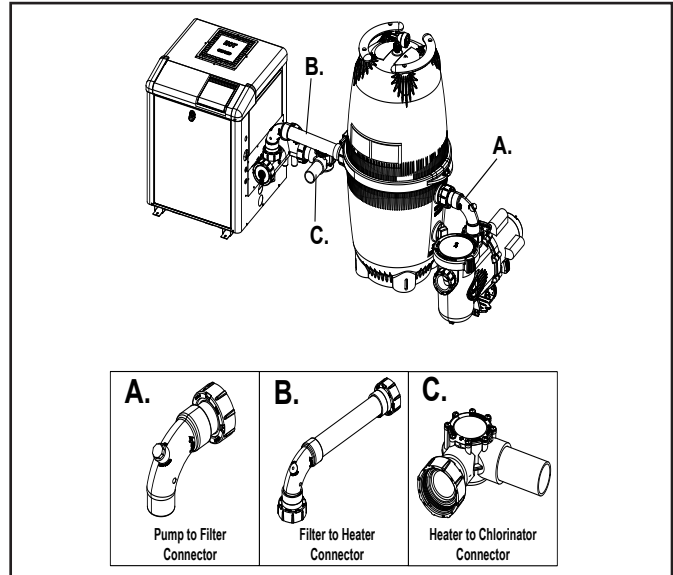

Figure 1. CV Standard Equipment Pad
3. Connect the pump to the suction lines (pool only or pool/spa combo) using CPVC cement and primer. The length of pipe into the suction port of the pump should be a minimum of four (4) times the pipe diameter.
4. Use CPVC cement and primer and connect the pump to the filter using the sweep elbow with the ½" NPT plug component of the kit, marked as "A" in figure 1. This positions the filter.
5. Use CPVC cement and primer and connect the filter to the heater using the straight length of pipe with union nuts on both ends, marked as "B" in figure 1. This positions the heater.
6. Attach the check valve (marked as "C" in figure 1) to the outlet of the LXi™ making sure the flow arrow points in the correct direction.